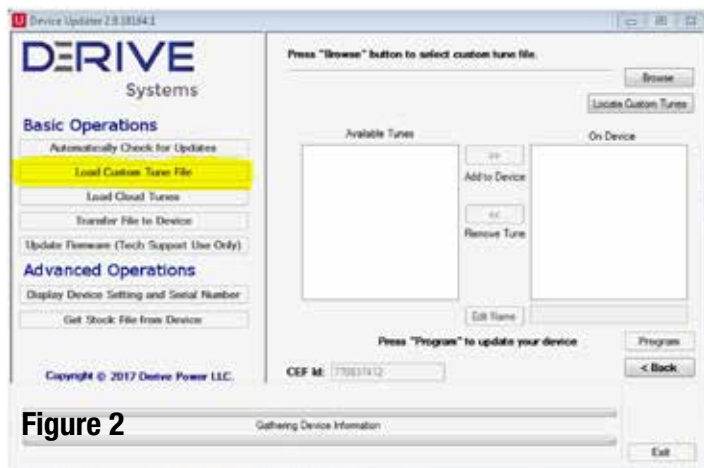

Figure 2
7. Once any updates have completed, save the updated supercharger calibration from the Edelbrock email to your PC. Then select LOAD CUSTOM TUNE FILE. (Figure 2)
NOTE: Steps 53-58 refers to Figure 2 below.